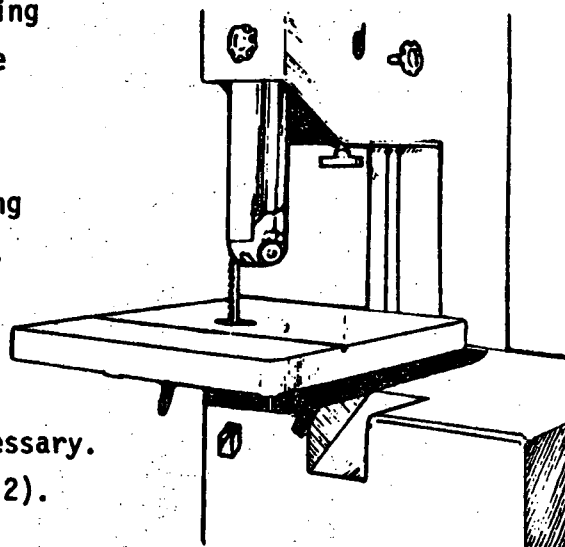

Fig. 2
- b) Release the tension (Fig. 2).